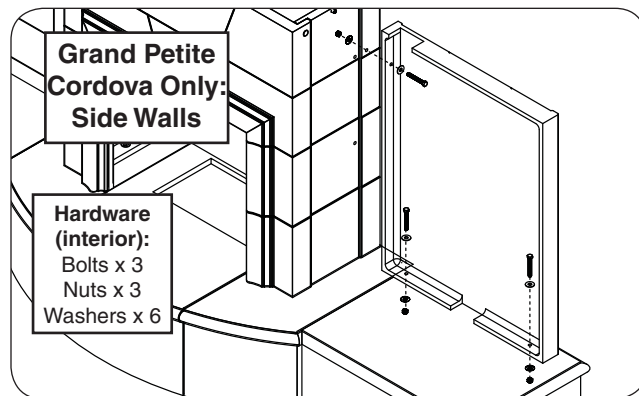

Fig. 20-1 Assemble rear side-wall (skip if n/a)
2. Place the rear side-wall piece beside the fireplace body as shown. Carefully align the pilot holes, and repeat the hardware installation process (interior hardware kits). See Fig. 20-1.